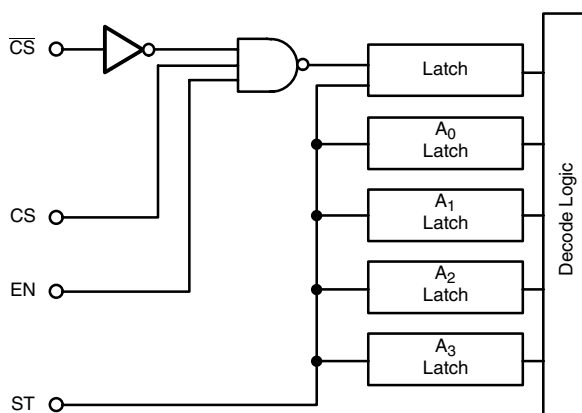

Figure 11.  $\overline{CS}$ , CS, EN, ST Control Logic
All four address inputs have on-chip data latches which are controlled by the Strobe (ST) input. These latches are transparent when Strobe is high but they maintain the chosen address when Strobe goes low. To facilitate easy microprocessor control in large matrices a choice of three independent logic inputs (EN, CS and  $\overline{CS}$ ) are provided on chip. These inputs are gated together (see Figure 11) and only when  $EN = CS = 1$  and  $\overline{CS} = 0$  can an output switch be selected. This necessary logic condition is then latched-in when Strobe (ST) goes low.